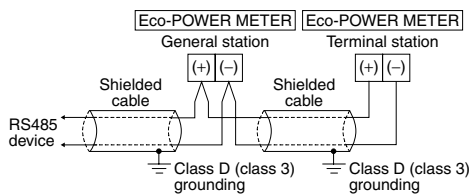

Fig.1
(1) Always be sure to set up a terminal station on Eco-POWER METER's RS485 system (Fig. 1).
(2) If using a shielded cable for the RS485 transmission line, ground one end. Use a class D (class 3) dedicated earth for grounding. Do not use the earth together with other earth wires (Fig. 1).